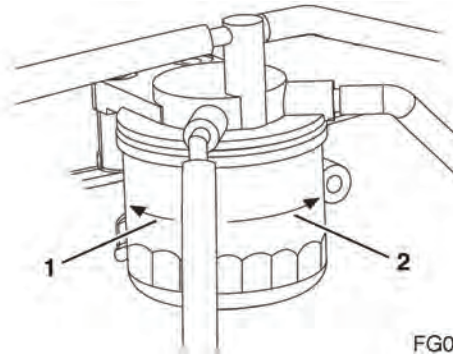

Figure 83
3. Remove the fuel filter with a filter wrench, turning it to the left (1, Figure 83). When removing the fuel filter, carefully hold it to prevent the fuel from spilling. Wipe up all spilled fuel.
5. Install the new fuel filter. Turn to the right (2, Figure 83) and hand-tighten it only until it comes in contact with the mounting surface. Tighten to 14 - 17 ft•lb (19.6 - 23.5 N•m; 2.0 - 2.4 kgf•m) or one additional turn using the filter wrench.